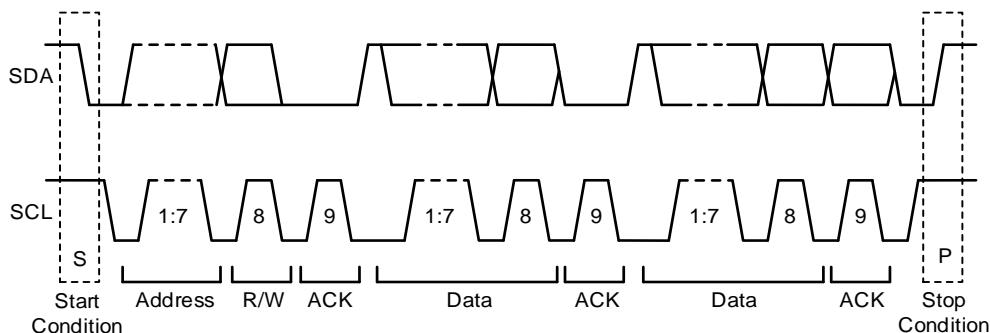

Figure 17: Complete Data Transfer
Figure 17 shows the data transfer format. After the start condition (S), a slave address is sent. This address is 7 bits long followed by an 8th data direction bit (R/W). A 0 indicates a transmission (write), while a 1 indicates a request for data (read). A data transfer is always terminated by a stop condition (P) generated by the master. For a master to continue communicating on a bus, it can generate a repeated start condition (Sr) and address another slave without first generating a stop condition.